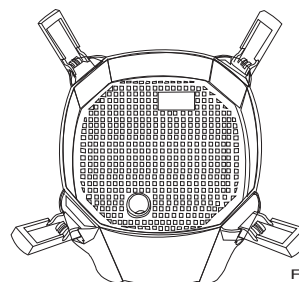
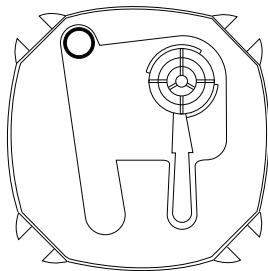

Fig 6
Fig 7
8. Ensure the filter grid is then placed back on top of the last filter basket. This is very important. Fig 6
9. Prior to installing the head unit, turn it over so you can see the impeller. Make certain that the power cord is not wet and plug it into the receptacle then turn it on and ensure it is working. If the impeller does not turn see *Cleaning Your Filter* for instructions on how to assess the impeller. Remove the Black sealing O-ring from the feeder pipe. Fig 7 and place it on the filter inlet pipe on the top filter basket. Fig 6